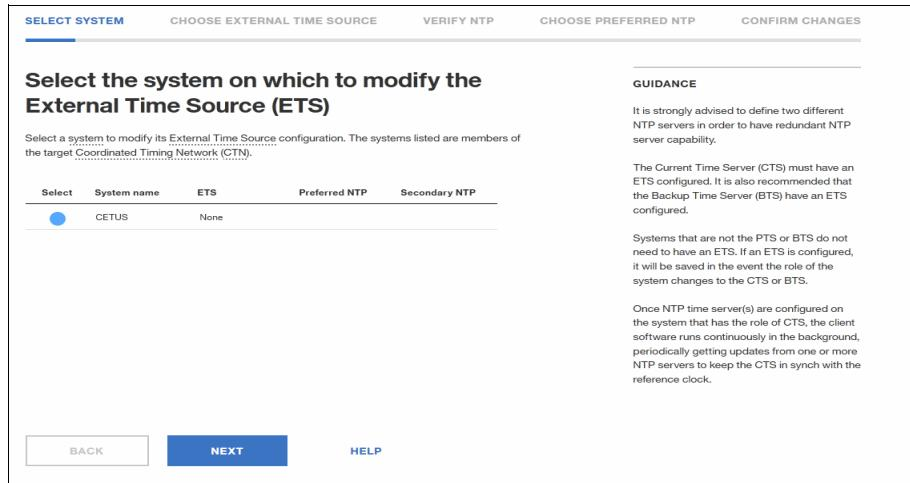

Figure 8-45 Select the system on which to modify the External Time Source (ETS)
2. The **Select the system on which to modify the External Time Source (ETS)** window opens. Select the CPC to modify the ETS setting for. We select CETUS (the only CPC in this CTN) on this window. Click **NEXT** to continue (Figure 8-45).